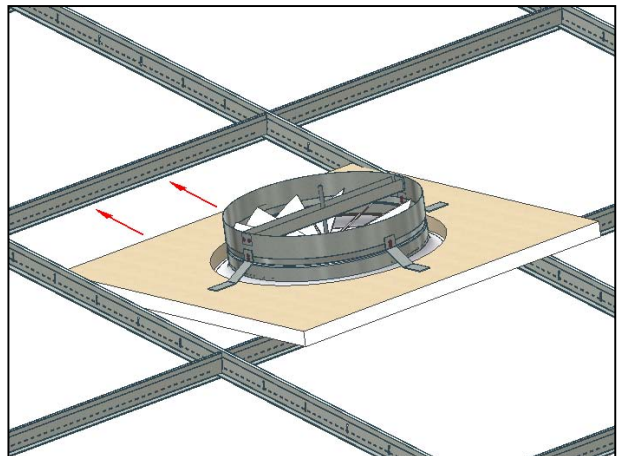

Figure 13: Slide into Ceiling Grid
- Locate one end of the Tile and Diffuser into the ceiling opening, and in a sliding motion move it to the far end of the opening (figure 13).